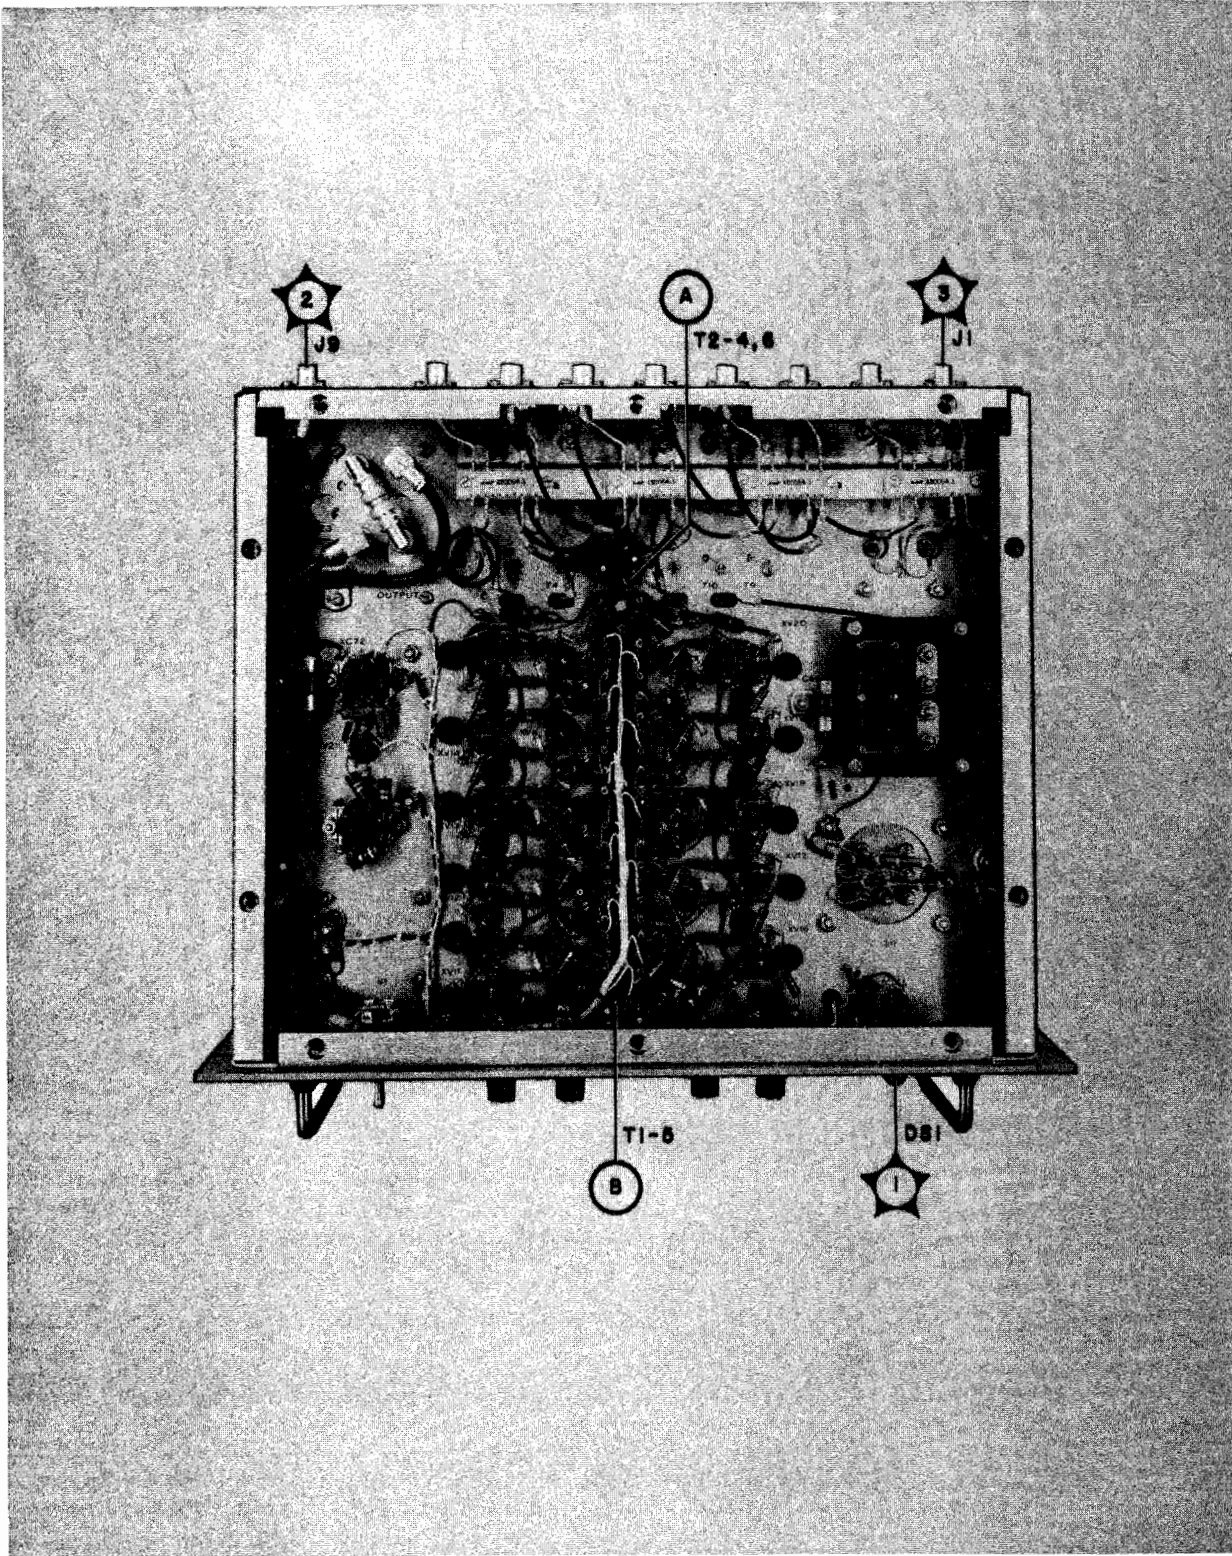

Figure 5-1. Antenna Coupler CU-872/U, Locations of Test Points
c. A system of test points has been established to facilitate troubleshooting. The test points are shown on the overall schematic, figure 6-1, and the physical locations are shown in figure 5-1. The test points fall in two categories: major and secondary. Each major test point is identified by an encircled Arabic numeral enclosed in a star. Starred numerals are used to identify points for checking overall performance including the signal input and output terminals. Each secondary test point is identified by an encircled capital letter. Circled letters are used to identify circuit supply voltage terminals and points for measuring gain.
d. TROUBLESHOOTING CHART.—The chart in Table 5-1 is a systematic check to be used when trouble arises. The test points appearing in the column marked TEST POINTS are located on figures 5-1 and 6-1.